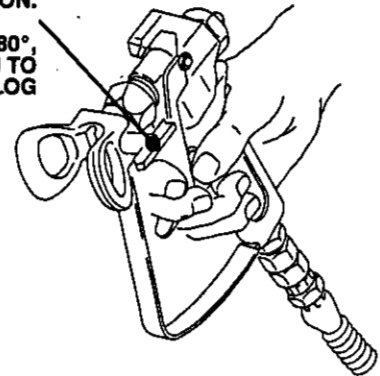

Fig 5
The tip guard alerts you to the risk and helps prevent placing any part of the body close to the spray tip. The tip guard also adjusts the vertical or horizontal spray pattern. See page 11. The tip guard holds a reversing spray tip. The tip is in the spraying position when the tip handle points forward. See Fig 5.
1. Release the gun trigger. Engage the safety latch. Rotate the RAC IV tip handle 180°. See Fig 5.